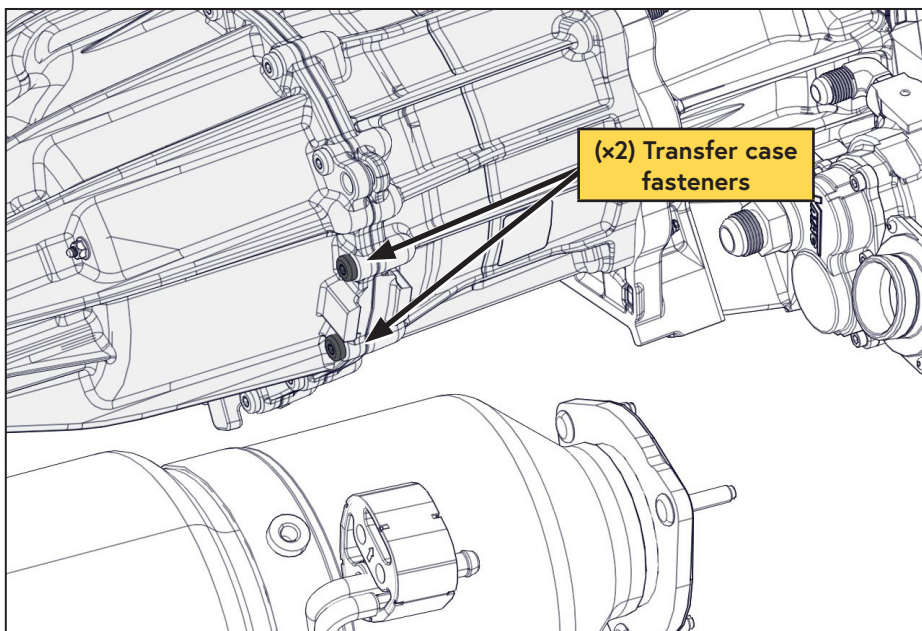

Figure 17 — Remove fasteners
- Remove the (×2) transfer case fasteners (Figure 17).